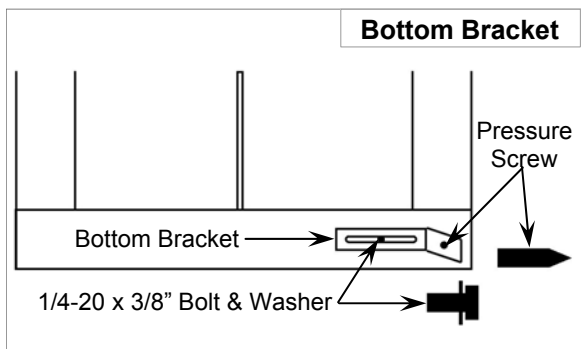

Figure 4
- Start the Pressure Screws into the L-Brackets. Use 1/4-20 x 3/8" bolts and washers to secure the L-Brackets to the enclosure. **(Figure 4)**
- Slide the bottom L-Brackets out to the sides of the fireplace and tighten the 1/4-20 x 3/8" bolts snugly. Don't over-tighten. **(Figure 4)**
- Tighten the Pressure Screws on each side evenly to hold the bottom of the Fireplace Enclosure securely. Don't over-tighten. **(Figure 4)**